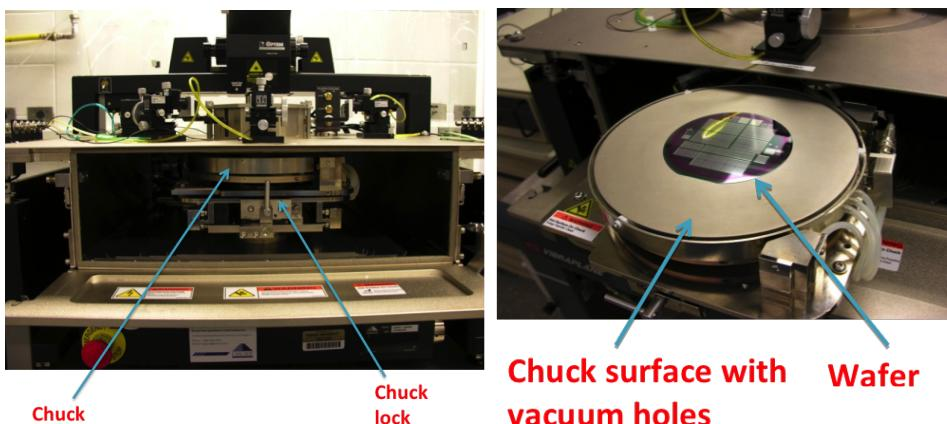

Figure 6: Chuck and loading surface.
- (b) Next, open the probe station micro-chamber door. A message will be displayed saying that the wafer access interlock is open. The chuck and chuck interlock should be visible as shown in Figure 6. Unlatch the chuck interlock and pull out the chuck. Pull the chuck all the way back until you feel a click. The chuck should now be held in place and will not slide back in after you let go.